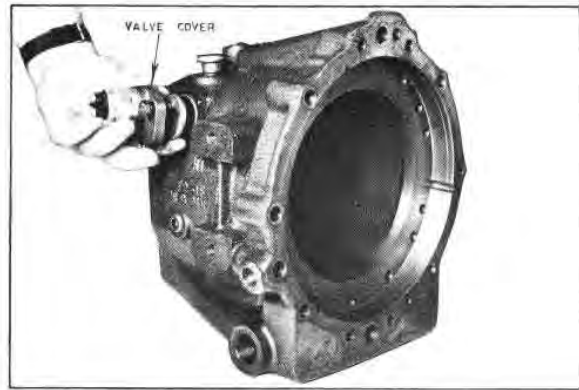

Fig. G50 — Assembly of Valve Cover
7. Assemble the valve cover gasket, valve cover, hex head bolts, and lockwashers, as shown in Figure G50. Torque the hex head bolts to 12 to 14 lbs./ft.